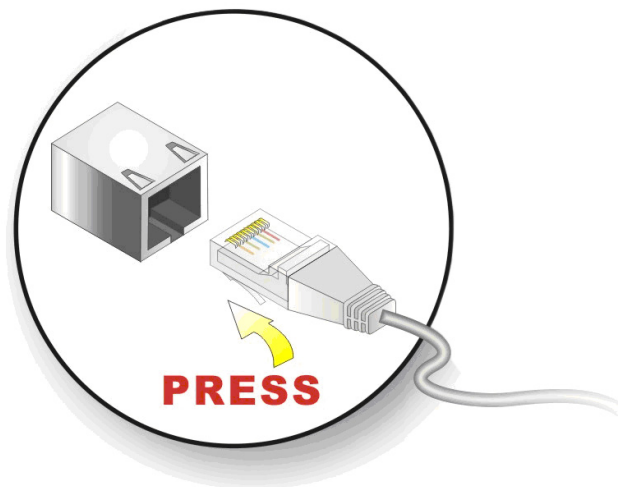

Figure 5-23: LAN Connection
Step 2: **Align the connectors.** Align the RJ-45 connector on the LAN cable with one of the RJ-45 connectors on the 3308440 SBC. See **Figure 5-23**.